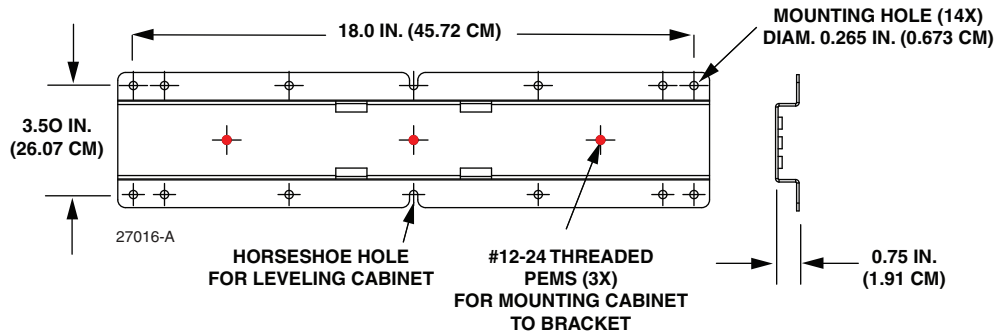

Figure 10. Wall Mounting Bracket
Figure 10 shows the features of the wall mounting brackets.
4. Hang the cabinet on the wall by positioning the middle horseshoe opening (shown in Figure 10 on Page 9) on the support screw just installed. Level the cabinet.